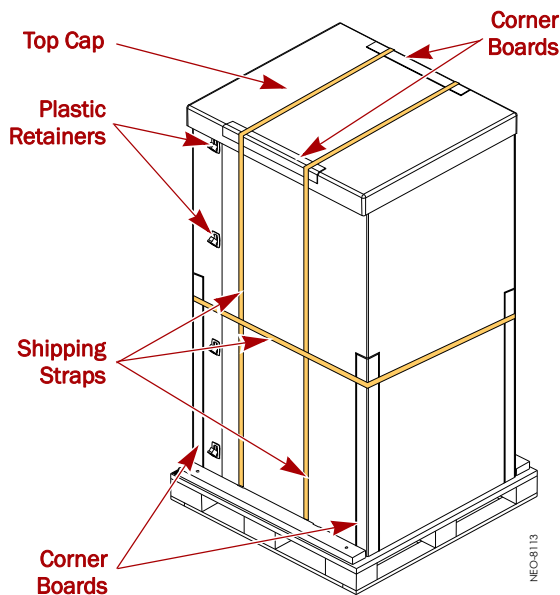

Figure 3. Library Packaging Components (Rear View)
2. Remove the outside packaging (Figure 3).
- e. Remove the two (2) large pieces of **cardboard** surrounding the library.